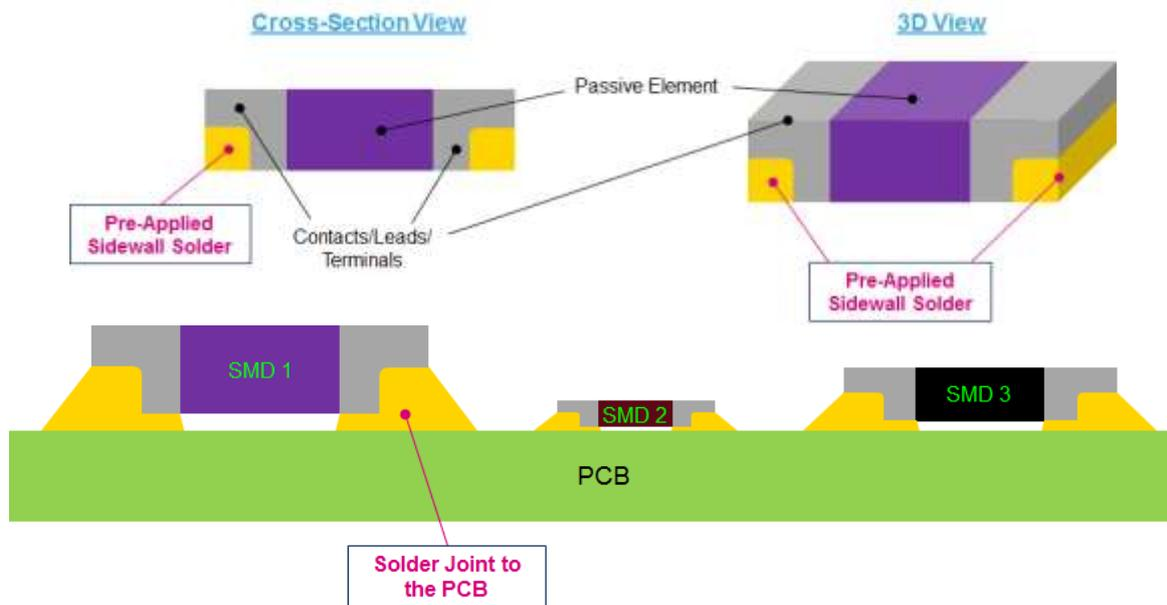

Fig. 2. SMDs augmented with pre-applied solder material on the leads' sidewalls.
- Discrete components like SMDs are augmented and improved with pre-applied lead corner solder material in Fig. 2